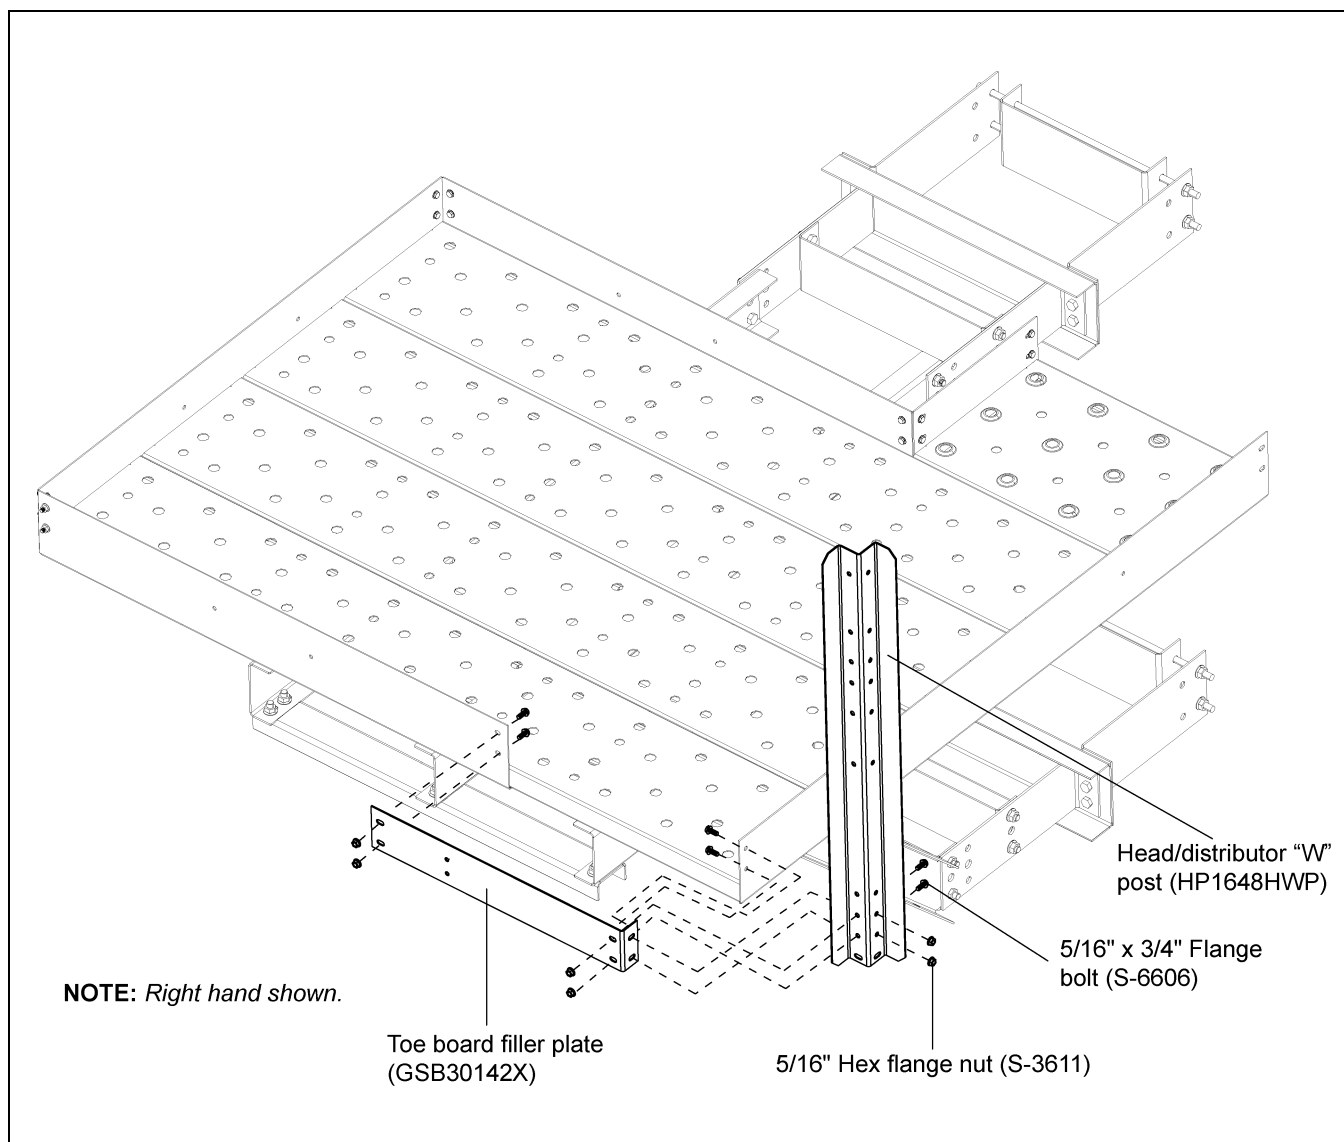

Figure 12L Distributor Platform Corner
5. Install the corner "W" post at the same time as the toe board filler plate. Attach toe board filler plate to the decking toe boards located across from the entrance. Attach the flat end first using two (2) 5/16" x 3/4" flange bolts and nuts. Then line up the holes of the toe board filler plate with the decking toe board, while also aligning the holes of the "W" post on the corner. Fasten all three (3) together with four (4) 5/16" x 3/4" flange bolts and nuts. *(See Figure 12L on Page 112.)*